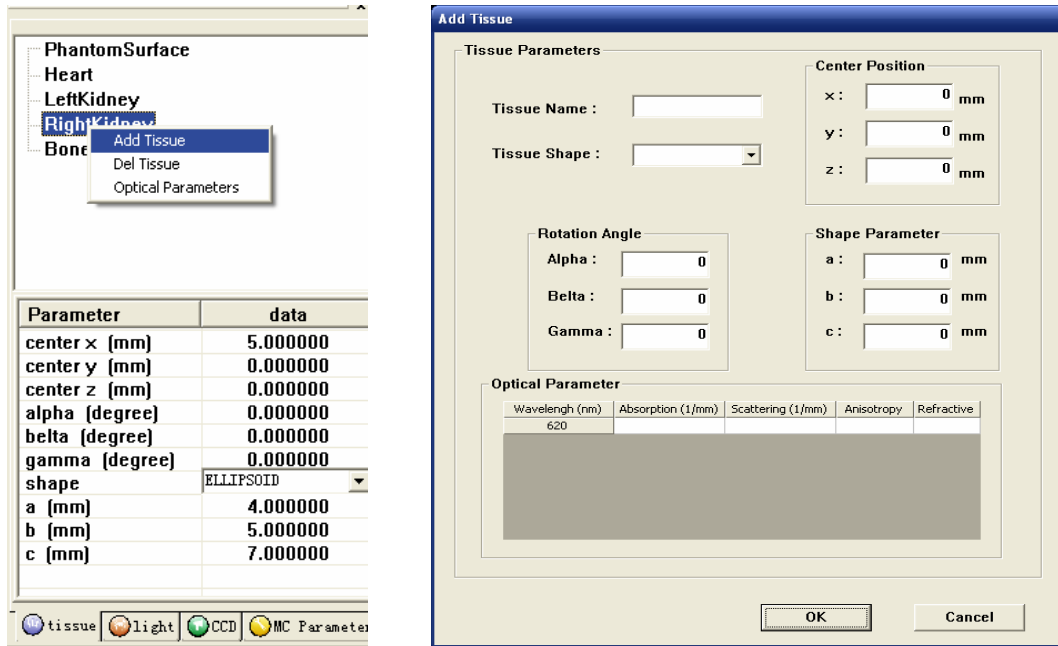
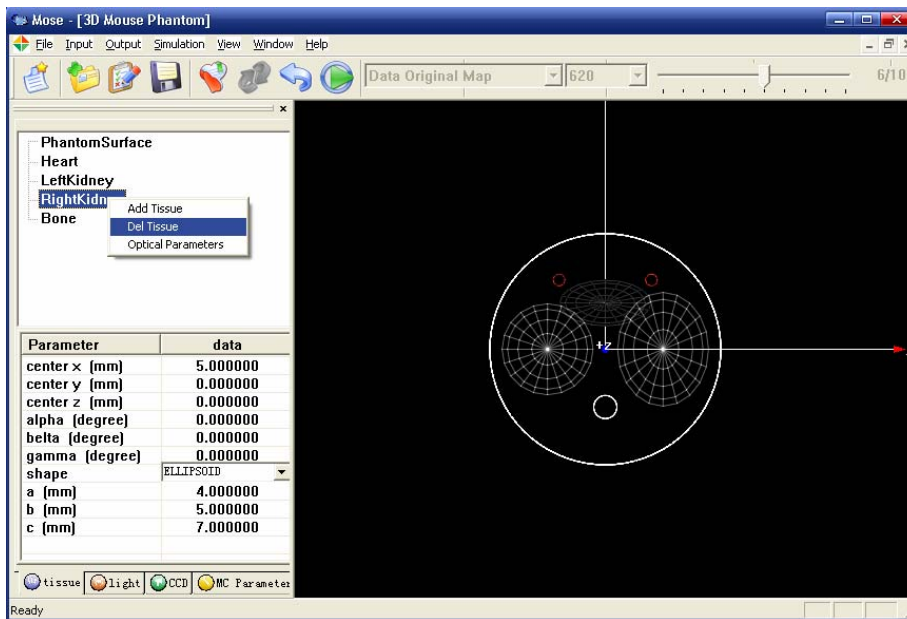
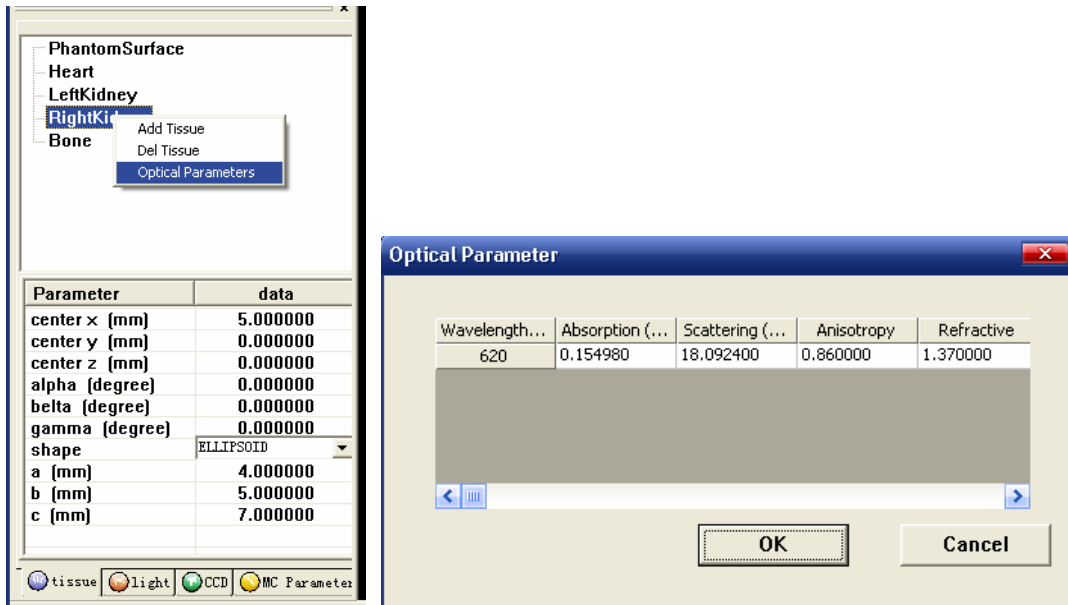

Figure 12-1. Add a tissue
Figure 12-2. Delete a tissue
Figure 12-3. Set the optical parameters of the light source
a. *Tissue* list: Tissue name is shown in the upper list, corresponding information including position and shape parameters which can be modified are shown in the second list (in 3D mesh environment, the second list shows the path of the .ply/.off file). We can add tissue, delete tissue, or set the optical parameter by right clicking the tissue name (see Figure 12-1, Figure 12-2, Figure 12-3).